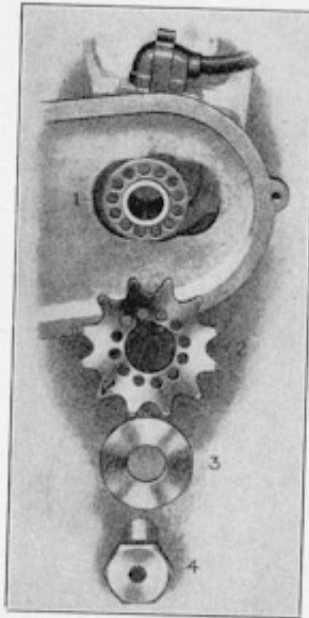

FIG. 26. THE VERNIER
**Re-timing the Ignition (1932-6 Single-cylinder Models with Mechanical Lubrication).** If the magneto or "Magdyno" has been removed from the machine, or the drive disturbed, it will be necessary to see that it is re-timed correctly after it is fitted again. The engine magneto driving sprocket is secured to its shaft by means of castellations, which render wrong replacement impossible. The sprocket on the armature shaft of the magneto is supplied with a Vernier timing adjustment (see Fig. 26), which allows a very accurate and certain method of fixing the drive after the correct setting has been arrived at. The setting of this Vernier adjustment may at first sound a trifle complicated, but in reality it is perfectly simple.